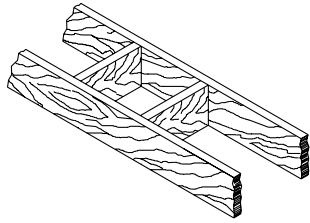

Figure 21 - Roof Framing
1. Cut and frame the holes in the ceiling, floor and roof where the chimney will pass (see **Figure 21**). Use a plumb-bob to line up the center of the holes. The sizes are indicated in **Table 2** for the floor and ceiling holes and **Table 3** (**Page 16**) for the roof holes.